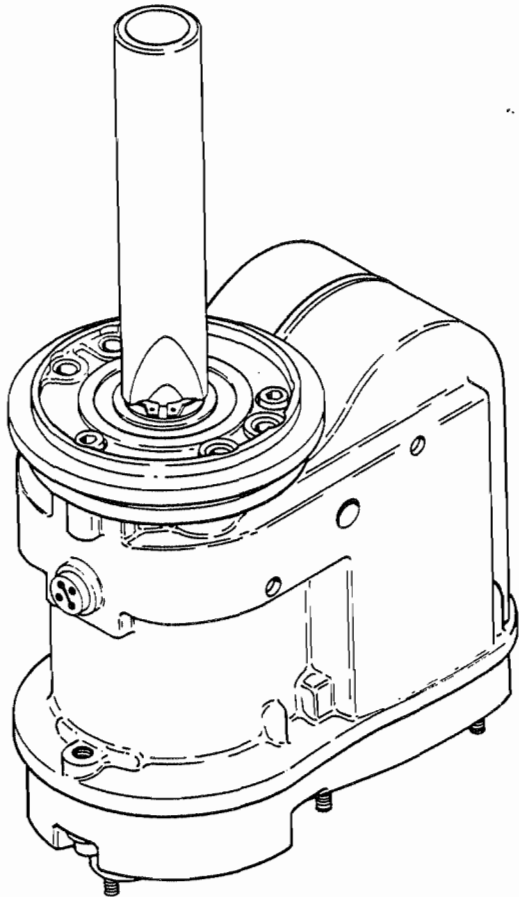

Figure 905. Installing Retaining Ring
Install oil slinger (53), over drive end of rotating magnet shaft (61) and flush against magneto mounting flange (56). Check to be sure slinger fits tightly on rotating magnet shaft. If slinger does not fit tightly, replace with new slinger. Slide bowed washer (52) (concave side towards slinger), flat washer (51), and new retaining ring (50) letter side up onto shaft. Compress bowed washer and seat retaining ring in recess of rotating magnet shaft using the 11-8822 Drift as shown in Figure 905. Install woodruff keys (49) into slots in shaft.